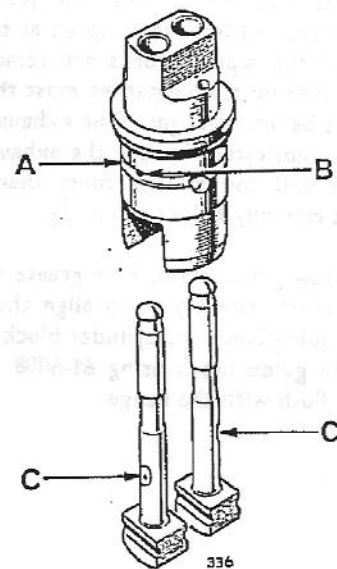

Fig. B16. Showing the correct method of assembly of the exhaust tappets
The correct method of assembly of the tappets is shown in Fig. B16. The machined cut away faces (C) should be facing the outside of the tappet guide block, i.e. the tappets must not be fitted with the cutaways facing one another, otherwise the oil holes (B) drilled in the annular groove of the tappet block (A) will not be able to supply lubricant to the tappets.